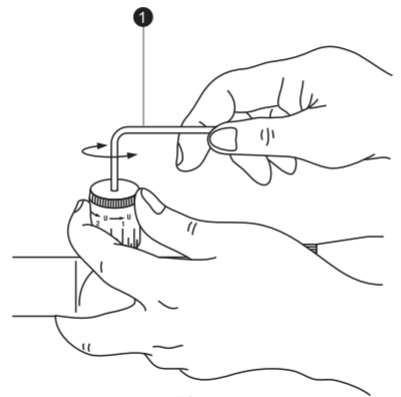

Fig. 4-2
With the turret held with your fingers to avoid shifting of the aligned scale ring, turn the screw in the top of the turret counter-clockwise with the supplied hex key for windage adjustment turret (2mm) (1) until the screw comes out. Then remove the turret (Fig. 4-2).